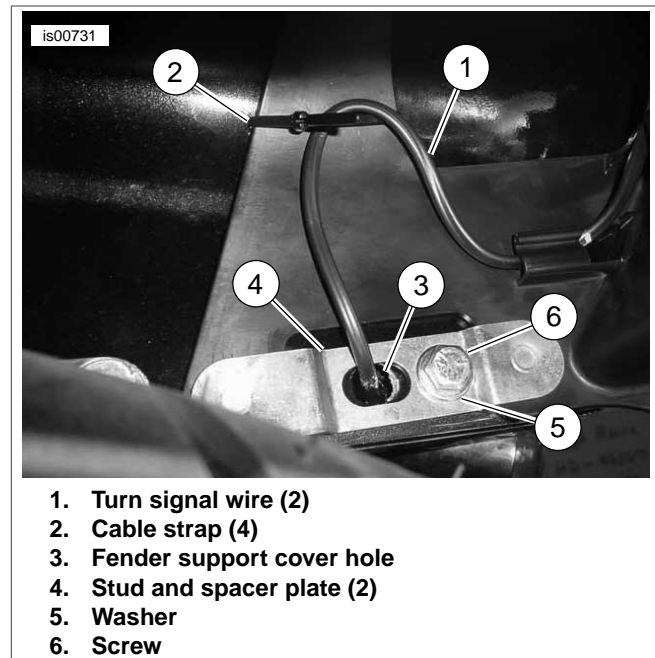
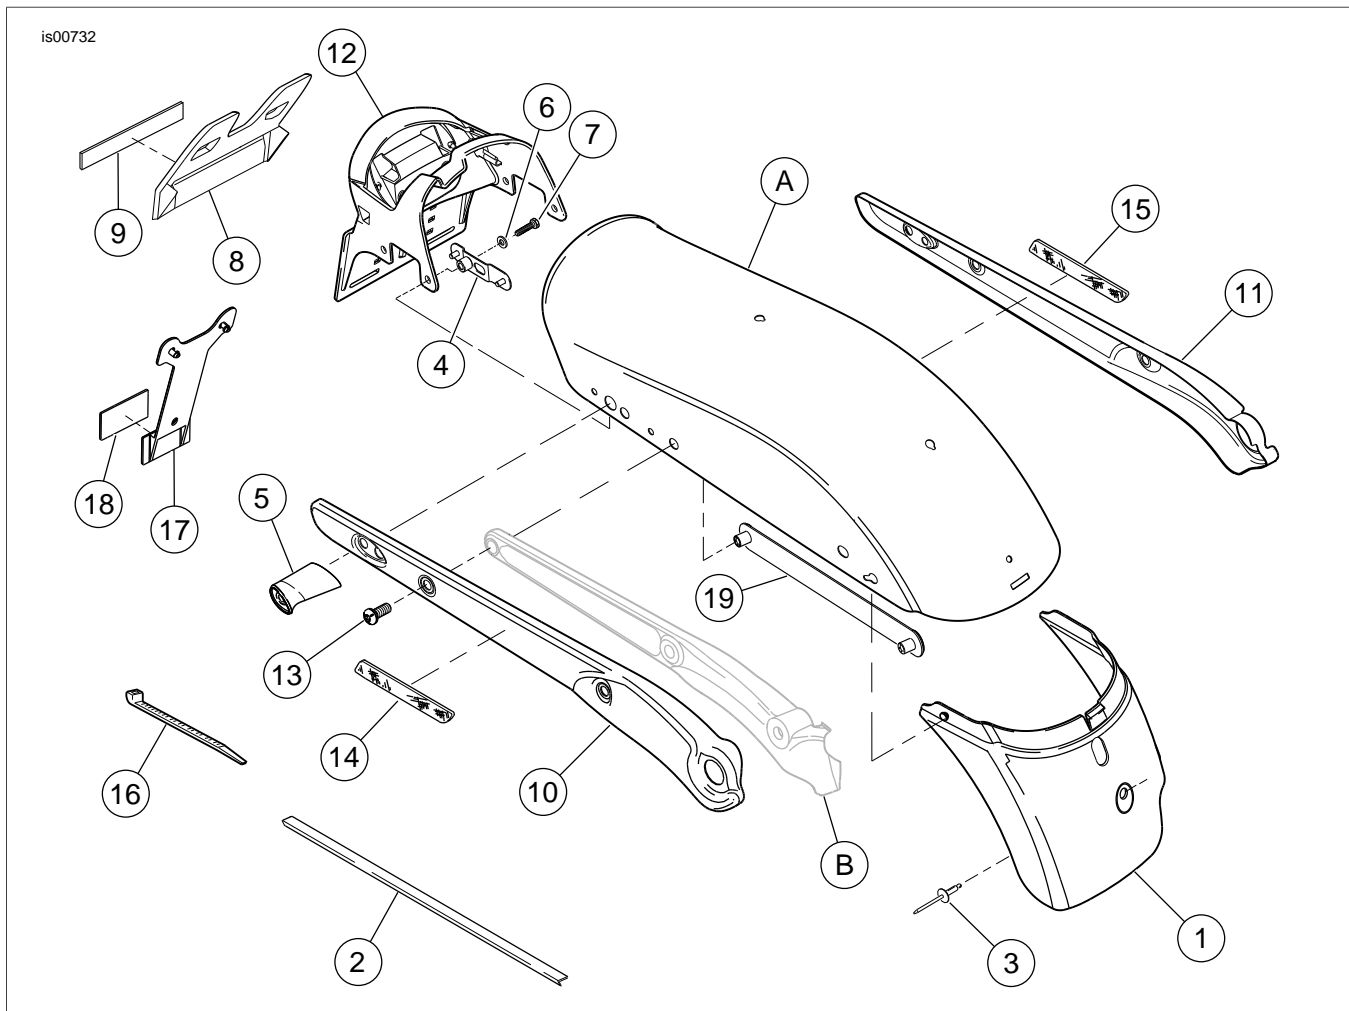

Figure 2. Turn signal wire routing and stand-off mounting
Figure 3. Service Parts: Dyna Bobtail Fender Kit
See Figure 3 and Table 2.
1. See Figure 3. Obtain the tail lamp/license plate bracket (12), and stud and spacer plates (4) from the kit.
2. Position bracket under the rear fender (A).
1. See Figure 3. Carefully place the rear fender (A) into position between the fender supports (B). Place fender support covers (10 and 11) from the kit over the fender supports.
2. Attach rear fender extension (1) to frame with push-in rivet (3).
3. Insert screws (13) through fender support covers (10 and 11), fender supports, and rear fender. Thread screws into rear fender mounting bracket (19) and tighten to 12-18 ft-lbs (16.2-24.4 Nm).
4. Attach turn signal stand-offs (5) on stud and spacer plates (4) with washer (6) and screw (7). Tighten screws to 12-16 ft-lbs (16.2-21.7 Nm).
5. See Figure 2. Insert turn signal wires through turn signal stand-offs, holes in the fender support covers, stud and spacer plates, and rear fender.
1. See Figure 3. Install reflectors (14 and 15) from kit on fender support covers (10 and 11).